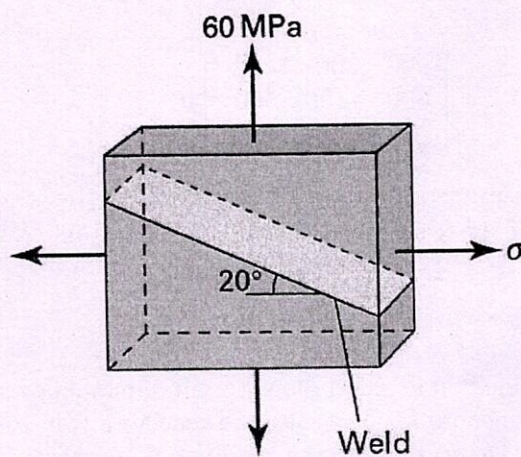

Figure 1
Q.1 A welded plate carries the uniform bi-axial tension illustrated in Figure 1. Determine the maximum stress for two cases: (a) The weld has an allowable shear stress of 30 MPa. (b) The weld has an allowable normal stress of 80 MPa.